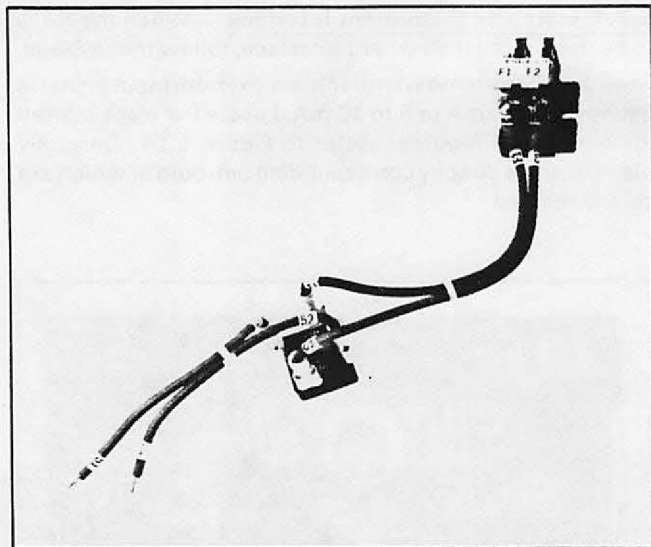

Figure 5.15 — Field Supply Kit
**5.8 Field Supply** — The Field Supply Kit provides full-wave field excitation for shunt-wound d-c motors. (Refer to Figure 5.15.) It may be optionally applied to controllers from ¼ thru 1½ hp. (It is a standard feature for 3 and 5 hp FlexPak Plus controllers.)